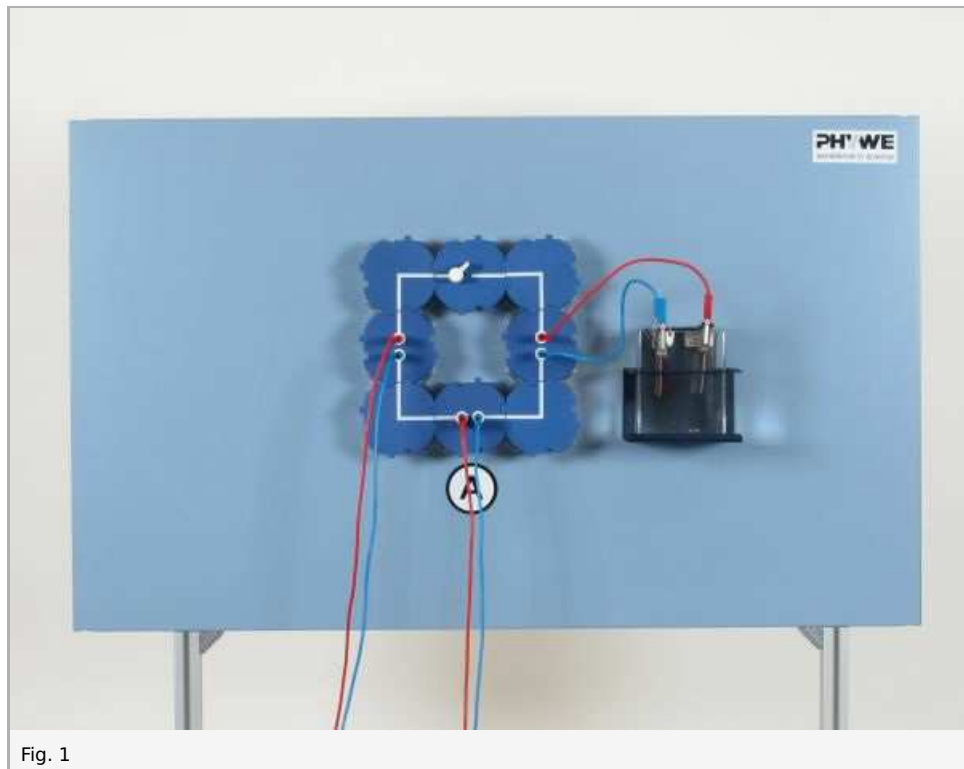

Fig. 1
- Set up the experiment as shown in Fig.1; fix the thoroughly cleaned (sandpapered) electrodes to the holders and dip them into the solution